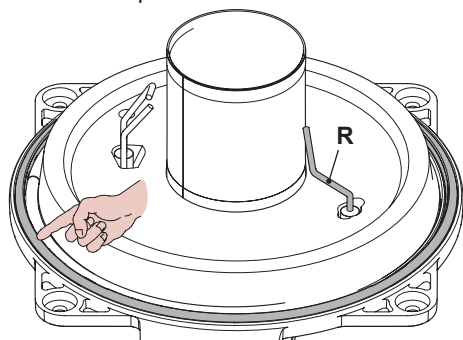
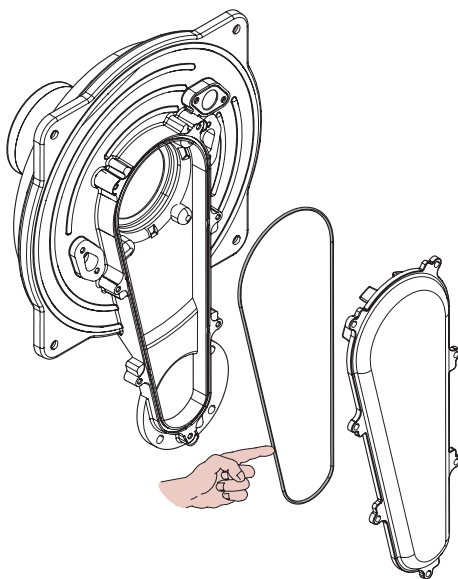

Fig. 10.9
Fig. 10.10
- The silicon seal on the front wall of the combustion chamber Fig. 10.9 and the seal on the air/gas pipe cover (Fig. 10.10) must be replaced if worn.
- The detection electrode **R** in Fig. 10.9 also functions as a sensor for the correct drainage of the condensate. Should the mentioned electrode come into contact with the condensate water present within the combustion chamber it sends the boiler into safety lockout. Therefore, should the insulation be wet or deteriorated, provide for the substitution of the same.
Caution: After any periodical servicing or disturbance the combustion chamber silicon seal Fig. 10.9 and the Air-gas duct gasket (Fig. 10.10) must be fully inspected and replaced at the discretion of the service engineer.